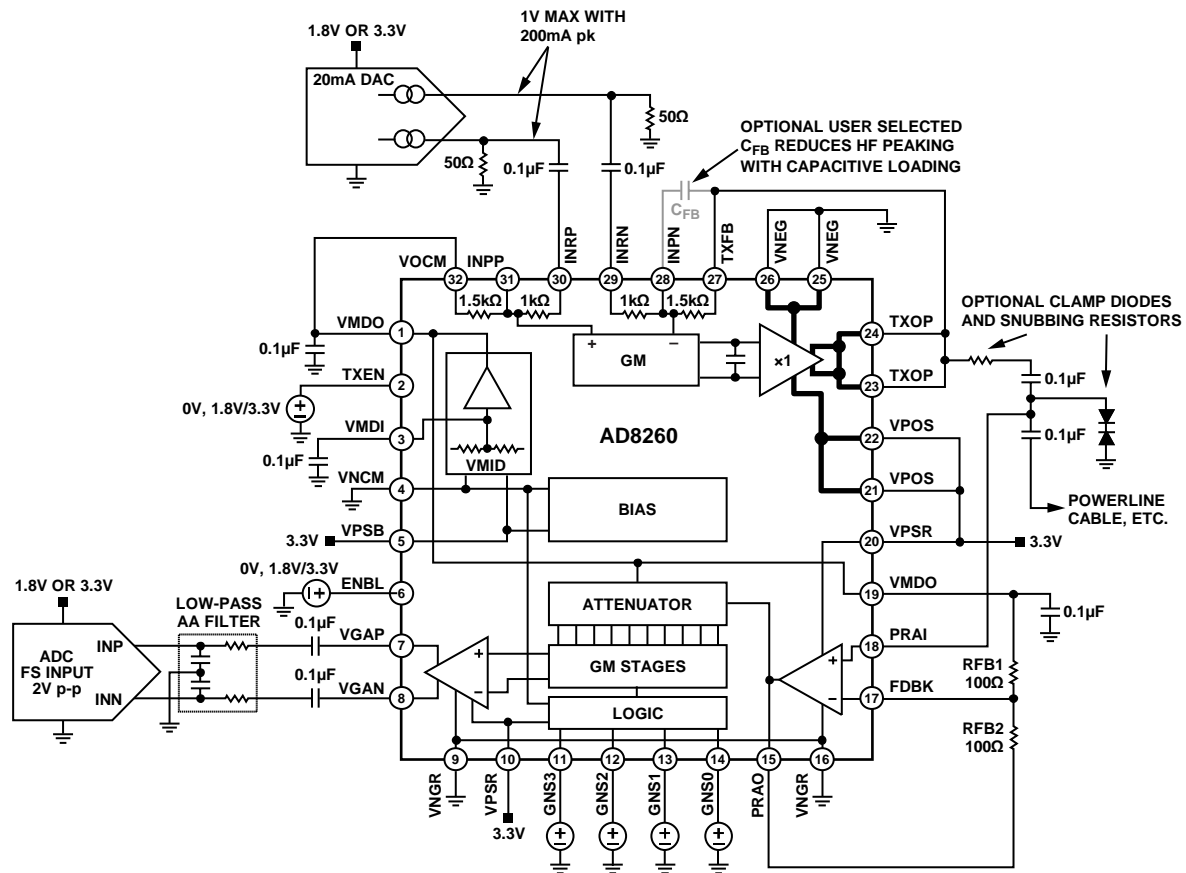

Figure 64. Block Diagram and Basic Application Connections
The AD8260 is a self-contained transceiver intended for analog communications using a power line as the media. Operating on supplies as low as 3.3 V, it includes a high current driver usable as a transmitter and a low noise digitally programmable variable gain amplifier (DGA), usable as a receiver (see Figure 64). An uncommitted current-feedback high frequency op amp acts as a preamplifier and interface to the DGA and is user configured for gains greater than 6 dB. Combined, the VGA and preamplifier are usable at high signal levels from dc to 100 MHz, with a small-signal -3 dB bandwidth of 230 MHz. To implement a high current-output VGA, the VGA output can be connected to the driver-amplifier differential input.
4-bit parallel interface. Figure 64 shows the circuit block diagram and basic application connections, and illustrates the envisioned external DAC, ADC, and power-line bus interface connections. The diagram shows the connections for single 3.3 V supply operation; if a dual supply is available, the VMID generator can be shut down and Pin VMDI, Pin VMDO, and Pin VOVM need to be grounded. Note that Pin VNOCM functions as the negative supply for the bias and VMID cells, plus the logic interfaces, and should always be tied to ground.
For optimal dynamic range, it is important that the inputs and outputs to both the driver amplifier and the preamplifier and the DGA output amplifier be ac-coupled in a single-supply application. In Figure 64, the DAC and ADC are presumed to operate on a 1.8 V or 3.3 V supply with a corresponding limited output and input swing. The DAC outputs are currents that point down and generate a voltage in the $50\ \Omega$ resistors that are connected to ground. The maximum voltage with a peak DAC output current of 15 mA is 0.75 V; if a DAC with a 20 mA peak current is used, then the maximum voltage is 1 V per side for a differential input signal of 2 V p-p.
The high current driver amplifier can deliver very large output currents suitable for driving complex impedances, such as a power line, a $50\ \Omega$ line, or a coaxial cable. The input of the amplifier is fully differential and intended to be driven by a differential current-output DAC, as shown in Figure 64. The differential input signal is amplified by $1.5\times$ and produces a $2.25\ \text{V}$ p-p single-ended output signal from a $1.5\ \text{V}$ p-p input signal. A DAC with $15\ \text{mA}$ maximum output current into a $50\ \Omega$ load provides $1.5\ \text{V}$ p-p of input voltage and results in $2.25\ \text{V}$ p-p at the output. A DAC whose output is $20\ \text{mA}$ produces an output swing of $3\ \text{V}$ p-p (neglecting a small gain error when driving the parallel combination of the $50\ \Omega$ load-resistor and the internal $1\ \text{k}\Omega$ gain resistor of the AD8260).
During receive, when the high current driver-amplifier is disabled, its gain setting resistors provide a signal path from input to output. To prevent inadvertent DAC signals from being transmitted while receiving via the preamplifier and DGA, the DAC in Figure 64 must have no output signal.
The VMID buffer is a dc bias source that generates the voltage on Pin 1 and Pin 19, VMDO. Node VMDO cannot accommodate large dynamic currents and requires excellent ac decoupling to ground. A high quality 0.1μF capacitor located as close as possible to Pin 1 and Pin 19 (see Figure 64) is normally sufficient to decouple the high values of current from Node VMDO.
Referring to Figure 64, the signal path consists of a 30 dB programmable attenuator followed by a fixed gain amplifier of 18 dB for a total DGA gain range of -12 dB to $+18 \text{ dB}$. With the preamplifier configured for a gain of 6 dB, the composite gain range is -6 dB to $+24 \text{ dB}$ from single-ended preamplifier input to differential DGA output.
- Use the internal VMID buffer as shown in Figure 64.